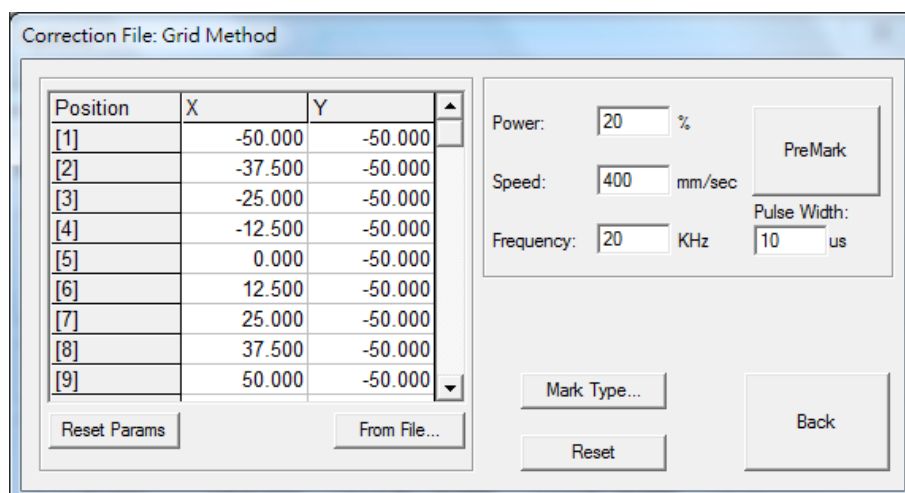

Fig. 4.3.09
- Step 1** Select the scale (K) value which is close to the voltage ratio of lens and driver output from the drop down menu. Then select the correct dots. More correct dots will get more accurate result.
- Step 4** Click the “Input Data” button for next step, see Fig.4.3.09.